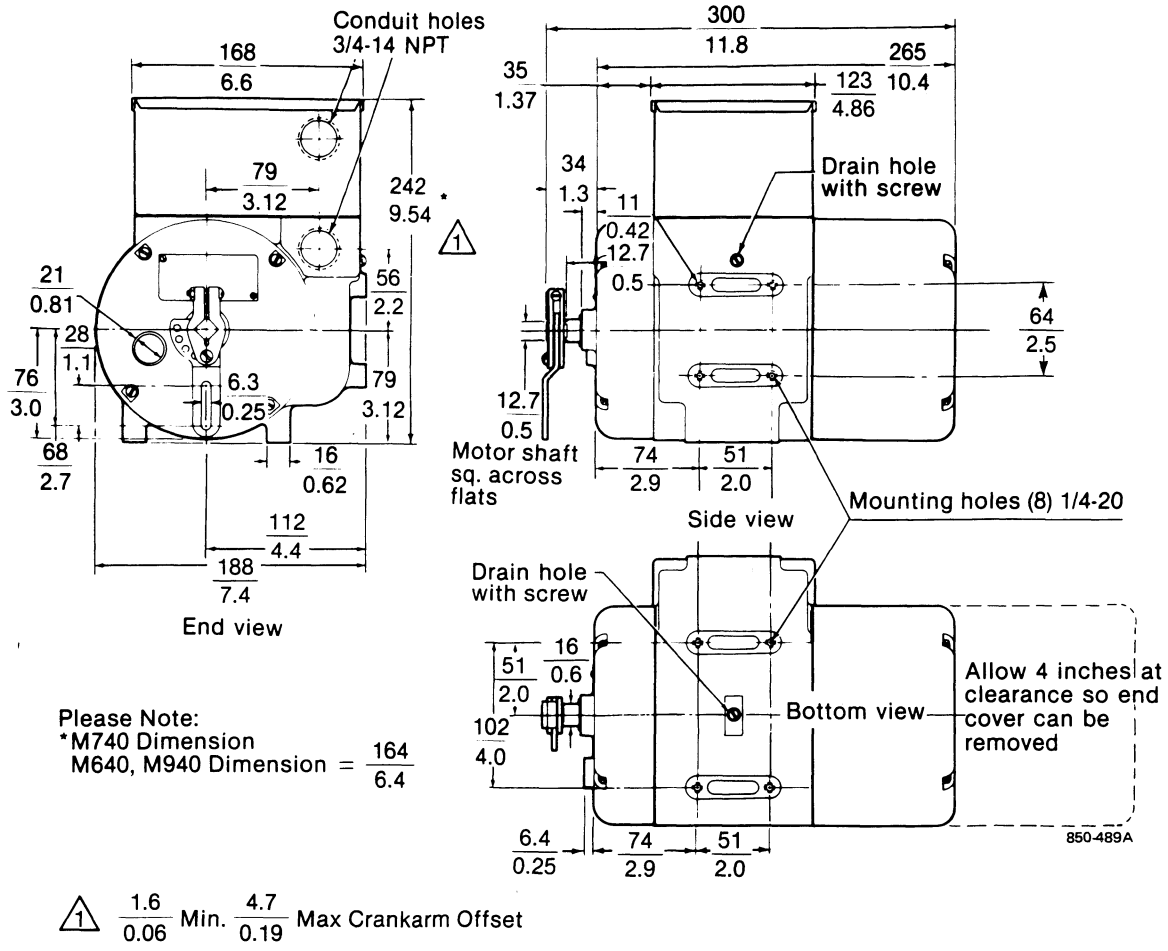

Figure 5—Motor dimensions — M640A, M740A, M940A
Refer to Figures 5 and 6.
**Dimensions** Refer to Figures 5 and 6.